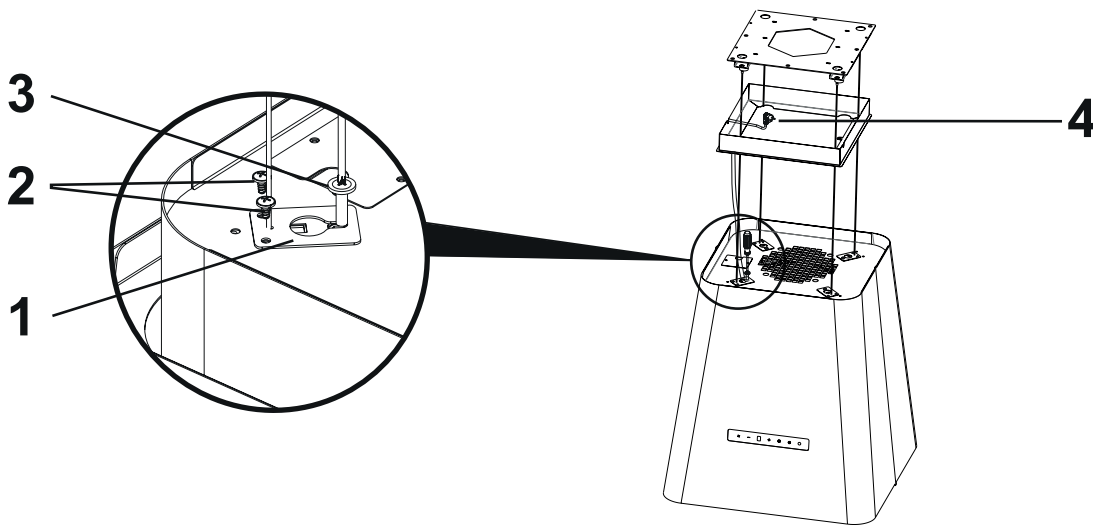

Fig. 13
1. ▶ Mount 4 ceiling hanger locking mechanism (1) on the body with 3.5 x 9.5 screws (2) and M5 x 15 (3) screws (Fig. 13)
2. ▶ Let the feeder cable (4) through the ceiling hanger plate feeder cable through area (Fig. 13/5) and make the electrical connections. Close the ceiling hanger plate cover.